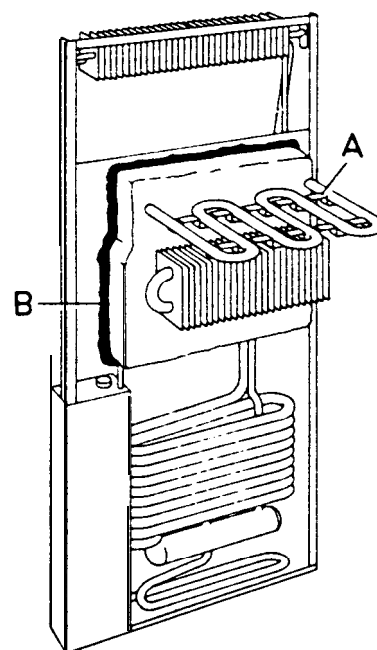

Fig. 48
Be careful not to damage the inner liner and the locations of the fastening strips ("A" fig. 48) on the evaporator should be noted at this time as they have to be fitted on the new unit,
Be sure to apply sealing permagum ("B" fig. 48) on the unit mounting plate. Be sure to fit the fastening brackets (A) on the evaporator coils in the right positions, otherwise it will be difficult to refit the 6 fastening screws inside the freezer.